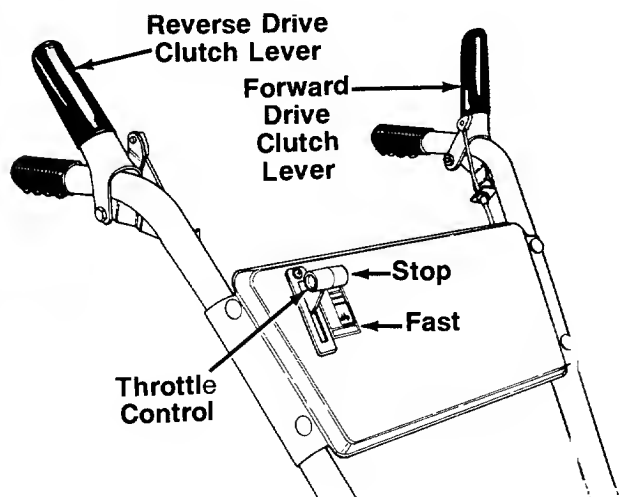

FIGURE 14.
The throttle control lever is located on the handle panel. It controls the engine speed and stops the engine. See figure 14.
The forward drive clutch lever is located on the left handle. See figure 14. Squeezing the lever against the handle engages the forward tine drive. Release the lever to stop the forward motion.
The reverse drive clutch lever is located on the right handle. See figure 14. Squeezing the lever against the handle moves the tines in reverse. Release the lever to stop the reverse drive.
2. Make certain both clutch levers are in the neutral position (released). See figure 14.
3. Place the throttle control lever in FAST position. See figure 14.
1. Move throttle control lever to STOP position. See figure 14.